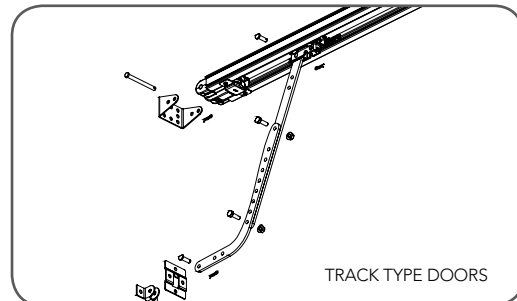

fig 23
- Assemble the bent and straight arms with bolts and nuts supplied in the accessory pack (Fig. 23). Always use both bent and straight arms.
- Assemble the bent and straight arms as shown in (Fig. 23) with bolts and nuts supplied in the accessory pack. Always use both the bent and straight arms.